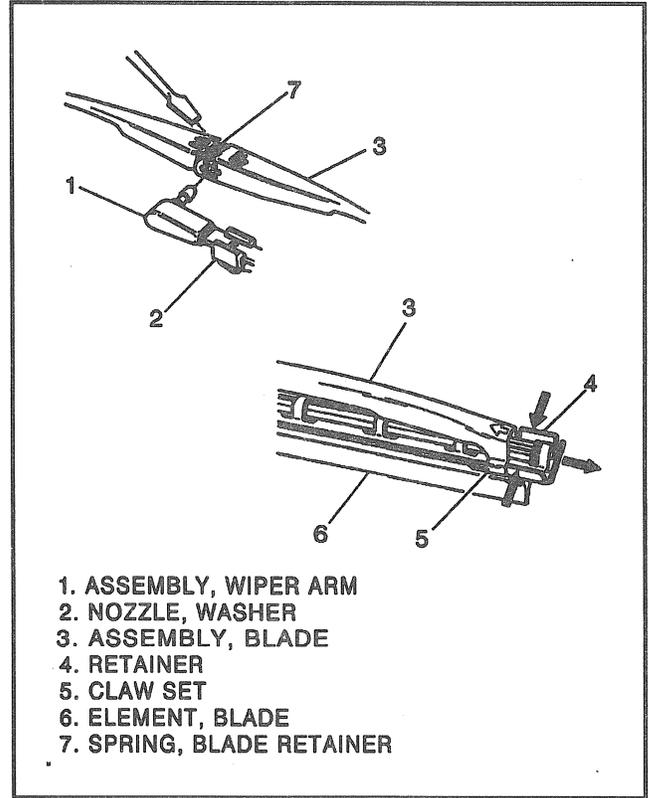

Figure 18—Wiper Blade Assembly and Insert Replacement
**Remove or Disconnect (Figure 18)**
**Install or Connect (Figure 18)**